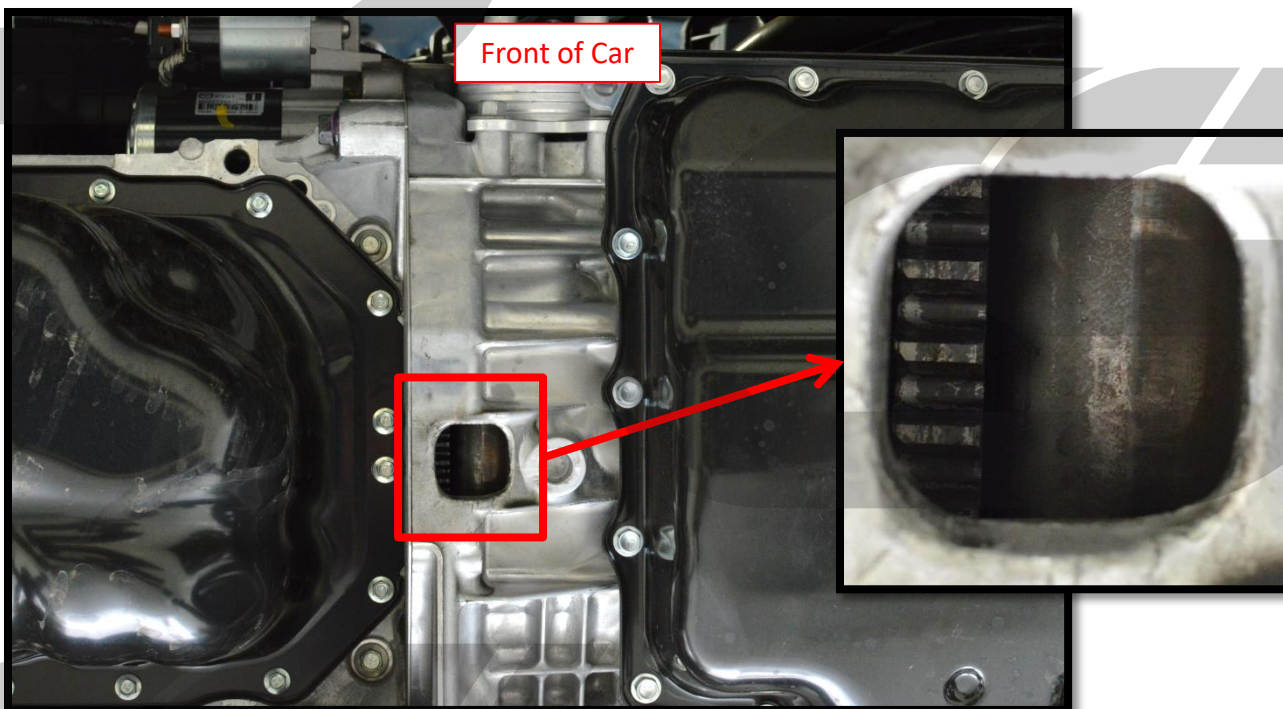

Figure 3d
- h) **Locate the small access hole shown in Figure 3d.** You should be able to see the flywheel through this hole.